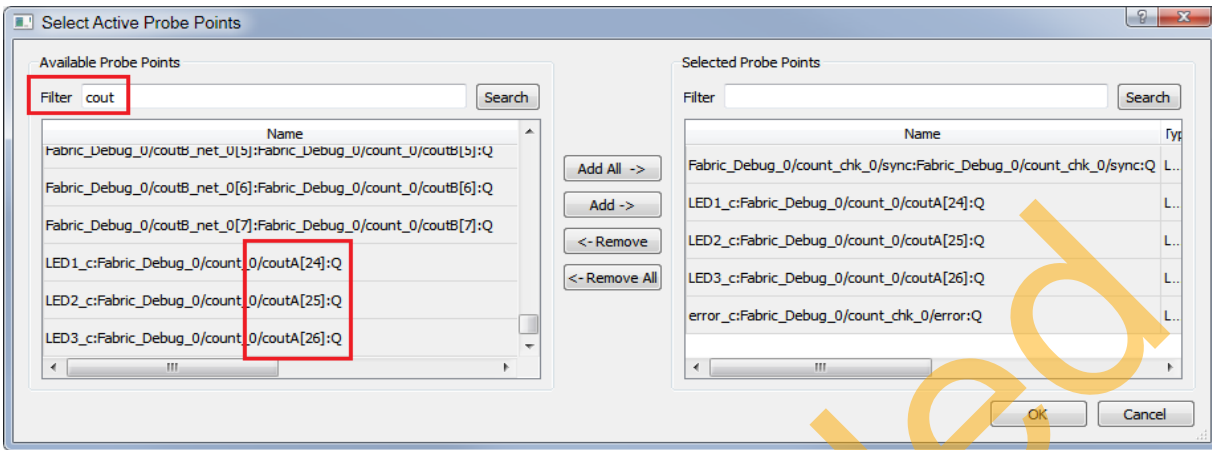

Figure 16 • Selecting Desired Points to Read
To find these points in the list of available probe points use the Filter control, as shown in Figure 16 on page 17.
4. Select the desired points and click on **Add** to move to the **Selected Probe Points** window and click **OK**, as shown in Figure 16.